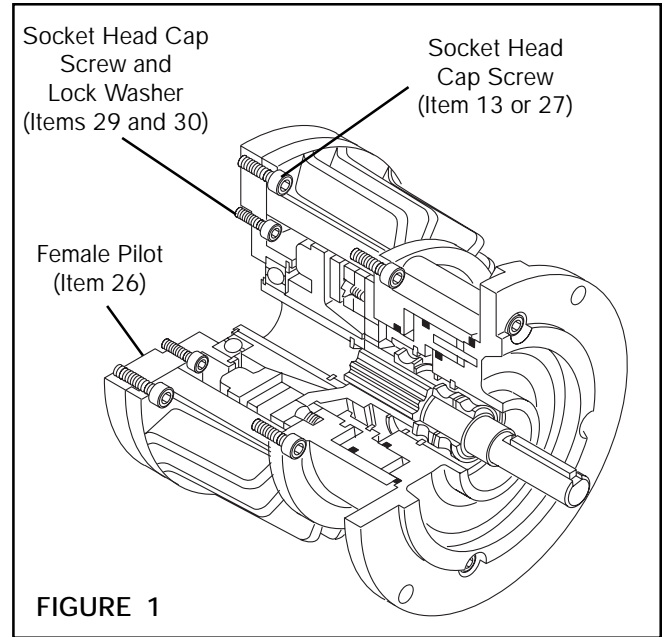

FIGURE 1
1. On Models 875, 1125, and 1375, first remove Socket Head Cap Screws (Item 27 on Models 875 and 1125 or Item 13 on Model 1375) and Female Pilot (Item 26); then, secure Female Pilot to the motor face using Socket Head Cap Screws (Item 29) and Lock Washers (Item 30) and tighten them to the recommended torque (See Figure 1 and Table 1).
On Models 875, 1125, and 1375, secure the FMCBE Housing (Item 1) to the Female Pilot (Item 26) using Socket Head Cap Screws (Item 27 on Models 875 and 1125 or Item 13 on Model 1375) and tighten them to the recommended torque (See Figure 1 and Table 1).
4. On Models 875, 1125, and 1375, first remove the Socket Head Cap Screws (Item 27 on Models 875 and 1125 or Item 13 on Model 1375) and Female Pilot (Item 26); then, secure Female Pilot to the motor face using Socket Head Cap Screws (Item 29) and Lock Washers (Item 30) and tighten them to the recommended torque (See Figure 1 and Table 1).
On Models 875, 1125, and 1375, secure the FMCBE Housing (Item 1) to the Female Pilot (Item 26) using Socket Head Cap Screws (Item 27 on Models 875 and 1125 or Item 13 on Model 1375) and and tighten them to the recommended torque (See Figure 1 and Table 1).